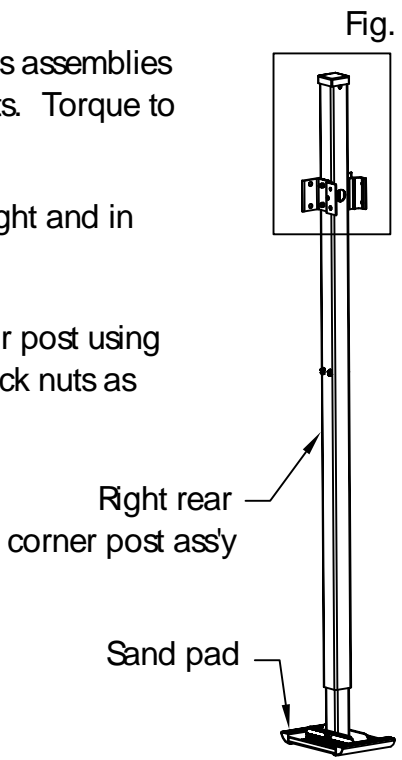
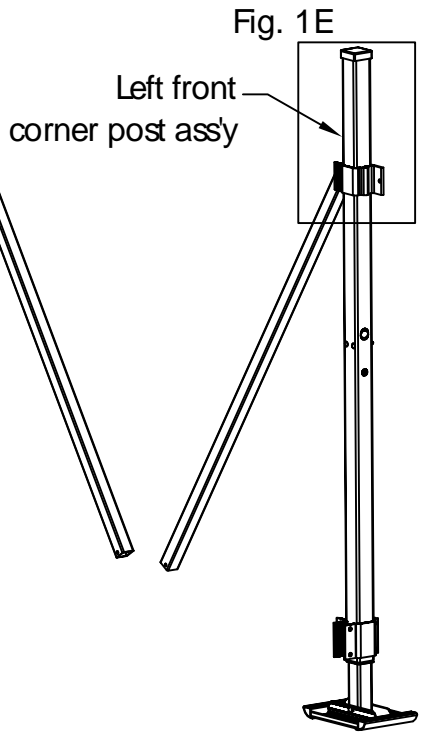

Fig. 1B
Fig. 1E
- ❑ Arrange corner posts as shown to the right and in Fig. 1B thru Fig. 1E
- ❑ Attach the ball screw clamp to the motor post using (2) 3/8" x 4 1/2" bolts and (2) 3/8" nylock nuts as shown in Fig. 1B. Torque to 40 ft/lbs.